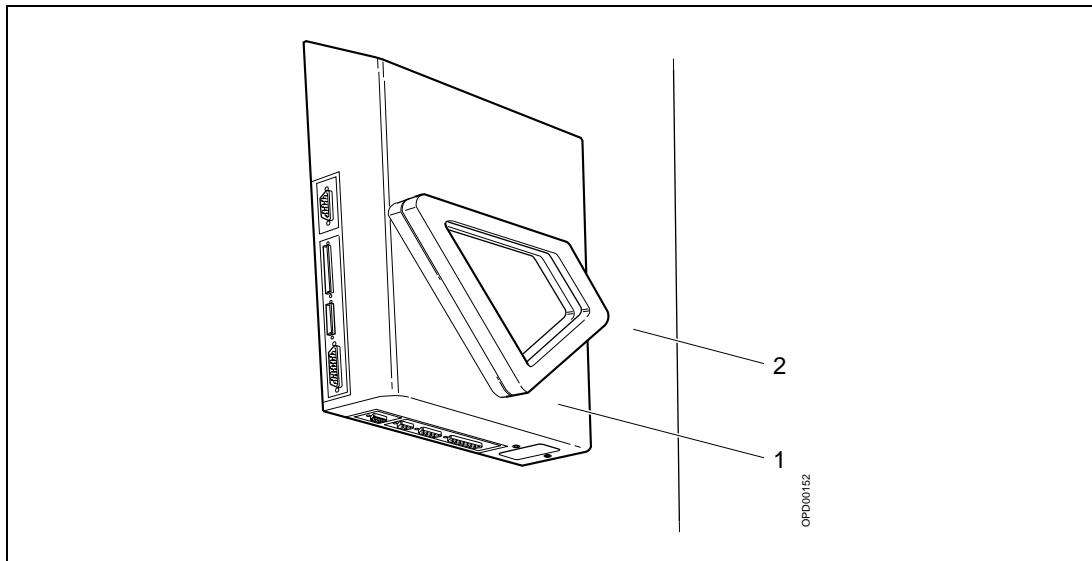

Fig. 5 Biopsy controller
4. Lift off the biopsy controller (1/Fig. 5) from the holders of the stand (2/Fig. 5).